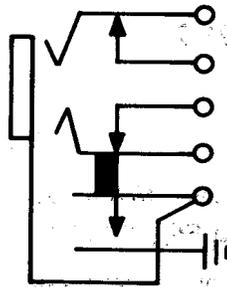

Fig. 2—275 Jack
2.02 **275:** The 275 is a strip-mounted jack (Fig. 2). This jack is used with the 150 and 310 plugs. It is furnished only on orders for jack mountings. This jack is also used with the 107, 108, 109, 110, 112, 115, 116, 131, 136, 137, 217A and 250A jack mountings.